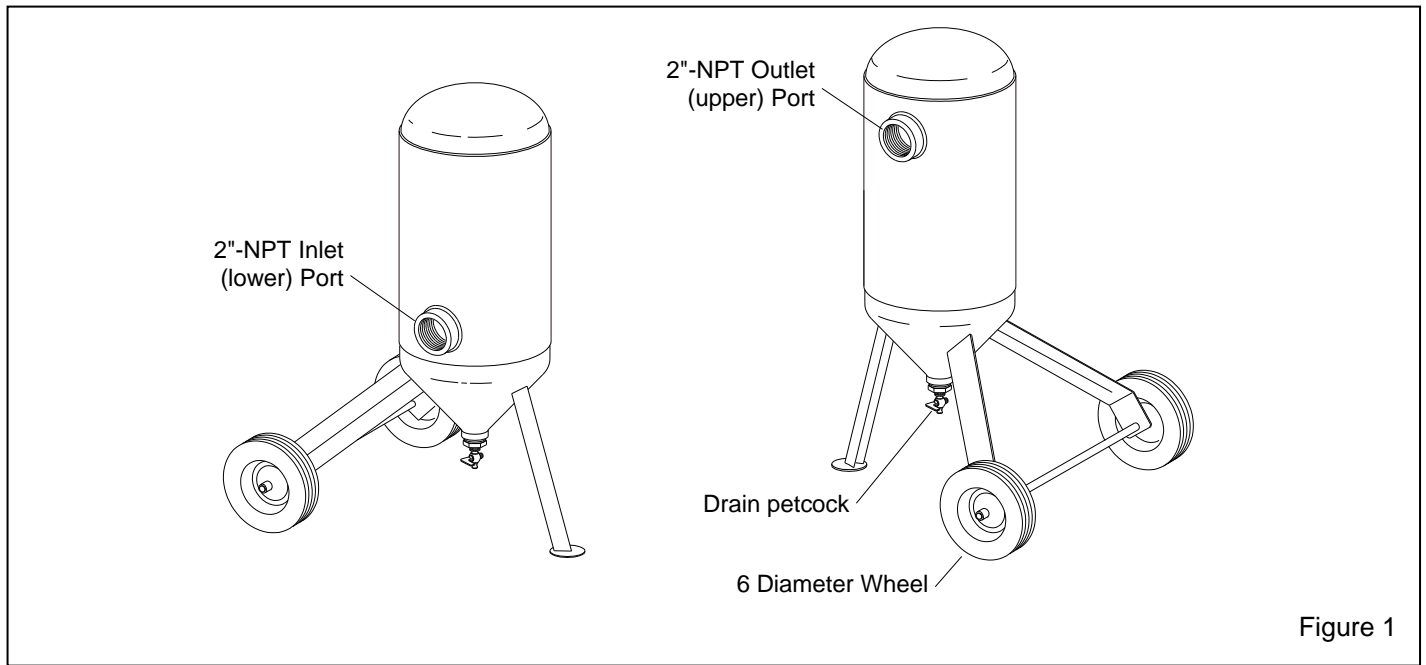

Figure 1
1.3.1 The primary components of the filter are shown in Figure 1. The filter is provided with a 2-inch inlet port, a 2-inch outlet port, and a drain petcock. The filter is designed to operate between 200 and 800 cfm (cubic feet per minute), at a maximum of 150 psi (pounds per square inch). Flow lower than 200 cfm or flow higher than 800 cfm may decrease the filter's water separating efficiency.